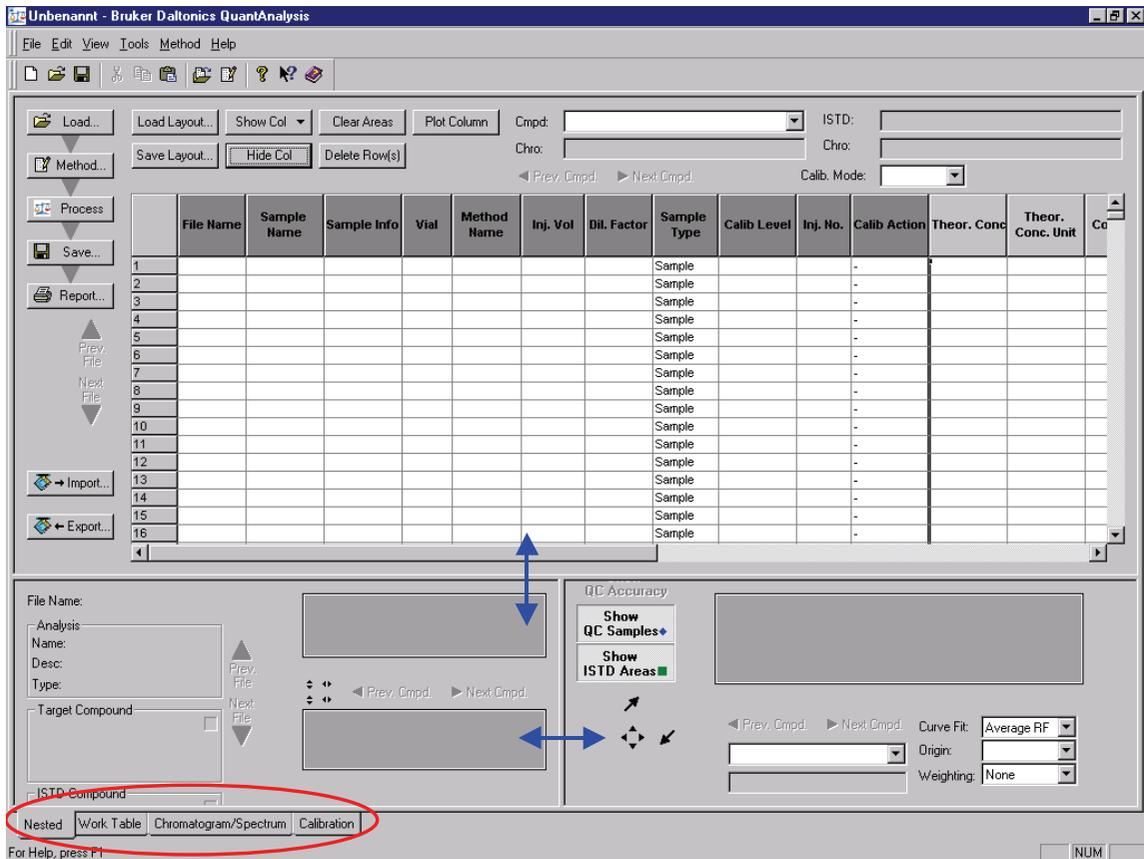

Figure 2 „Nested view“ of QuantAnalysis
You can not open a csv-file with the -button or by File | Open.... These commands only work for batch-files (.btc)! The file seqtable.csv can only be loaded into the worktable by using the -Button (see fig. 2)*
- **Import the sequence** file: click on the  Import...-Button (red ellipse in **fig. 2**), change to the directory where the sequence was saved during the installation process of this tutorial, choose „**seqtable.csv**“ and click on **Open** . The work table will display the names of the chromatogram files and all other informations which were saved with the sequence (**fig. 2**) like sample names, vial position, injection volumes...
→ **Adjust the work table layout:** Select those columns which you need and deactivate all other columns. To do so mark a column by clicking on its header and click on the button **Hide column**. To redisplay a column click on **Show column** and select it in the drop-down field. Make sure that the columns „**SampleType**“ and „**Calibration Level**“ remain displayed. The width of a column can also be optimized if for example an entry is not shown in full length or if a column is much wider than necessary: move the cursor to a separation line between two fields of column headers and drag the line (left mouse button kept pressed; green arrow in **fig. 2**) to a more appropriate position.
*Adjust the layout of the work table to the kind of quantitation you are going to do. For example if you want to do an external calibration hide all columns which define parameters of an internal standard. Save an optimized layout with **Save Layout** (blue ellipse in **fig. 2**; file extension *.qal) or reload a formerly defined layout with **Load Layout**.*